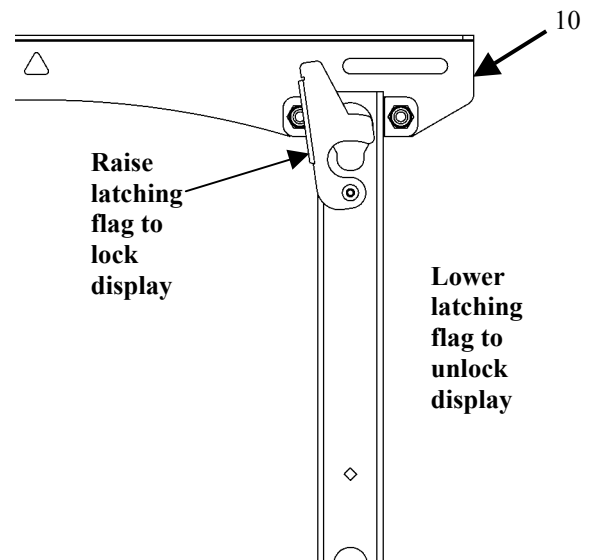

Figure 9. Latching Flag
1. With the aid of another person, lift the display up to the mount (10) on the wall, aligning mounting buttons on the PSB with the teardrop slots on the mount, and lower the display firmly into place.
2. Raise the latching flag (2 places) to secure the display (see Figure 9). If the flag does not fully engage, check to ensure the mounting buttons are fully seated in the slots.
2. Lower the latching flag to unlock the display (see Figure 9).